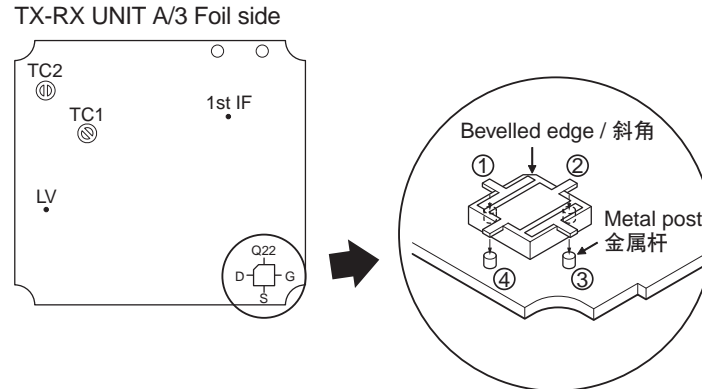

Fig. 1 / 图1
- Place Q22 in its location, upside down as shown in figure 1. Make sure the location of each pin is correct. The bevelled edge is located between pin 1 and 2. (See the figure below) Replace the heat conductor sheet (G11-2664-x4) when replacing Q22.
- 如图1所示，将Q22上下颠倒放在它的对应位置。每个管脚的位置一定要正确。斜角位于管脚1与管脚2之间。（如下图所示）当置换Q22时，重置热导膜（G11-2664-x4）。